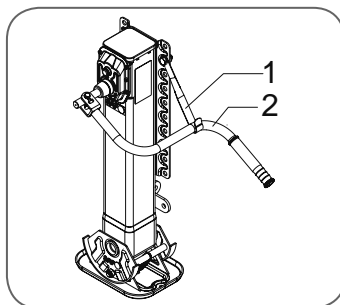

Fig. 6 - Crank function
The crank holder –item 1– ▶ *Fig. 6* is fastened either to the rear plate of the landing gear or to the vehicle frame and is used to hold the crank handle –Pos. 2–.